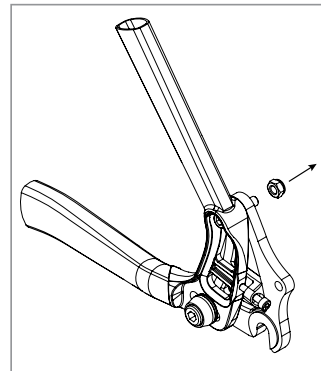

Figure 2
1. Remove the nut used for shipping from the non-driveside upper pivot bolt. Set it aside as a spare to the driveside nut (Fig 2).